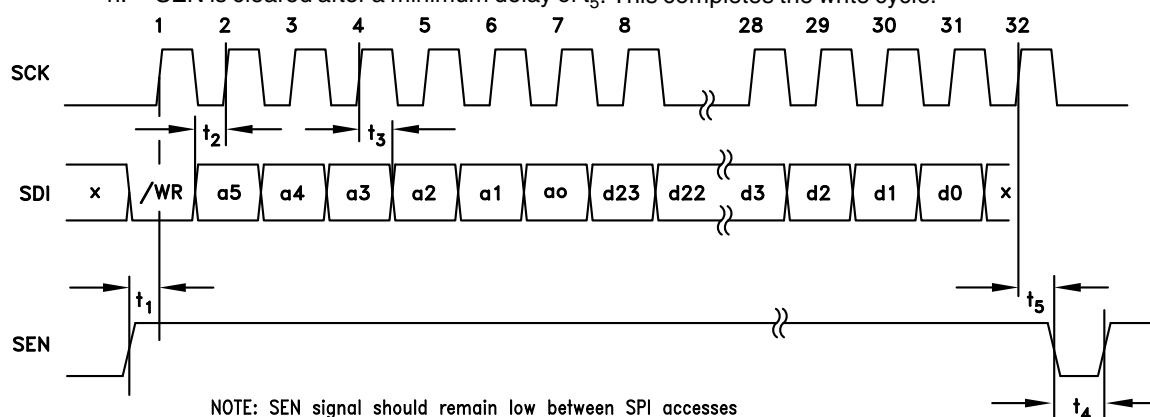
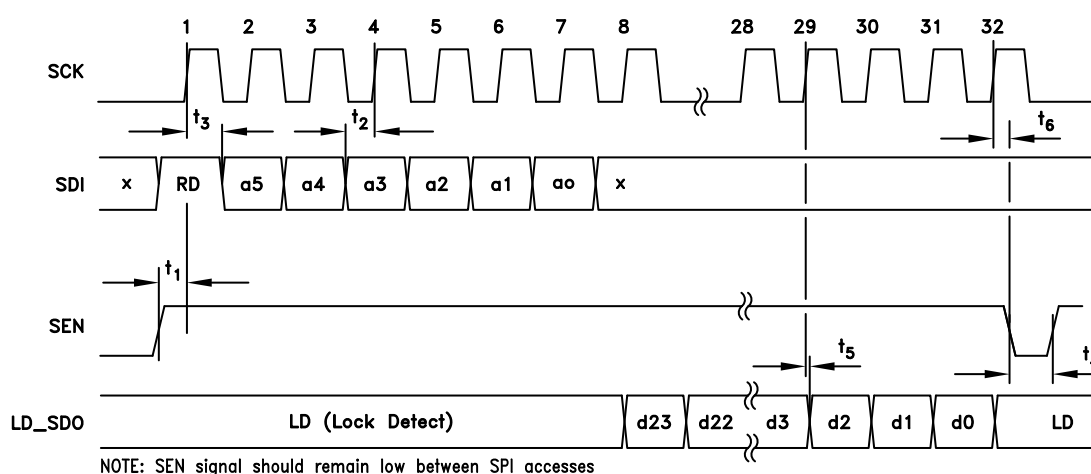

Figure 45. HMC Mode - Serial Port Timing Diagram - WRITE
Figure 46. HMC Mode - Serial Port Timing Diagram - READ
The HMC Mode protocol, shown in figures Figure 45 and Figure 46, is designed for a 4 wire interface with a fixed protocol featuring
A typical HMC Mode WRITE cycle is shown in Figure 45.
A typical HMC Mode READ cycle is shown in Figure 46.
- a. The Master (host) asserts both SEN (Serial Port Enable) and SDI to indicate a READ cycle, followed by a rising edge SCLK. Note: The Lock Detect (LD) function is usually multiplexed onto the LD_SDO pin. It is suggested that LD only be considered valid when SEN is low. In fact LD will not toggle until the first active data bit toggles on LD_SDO, and will be restored immediately after the trailing edge of the LSB of serial data out as shown in Figure 46.
- b. The slave (HMC834LP6GE) reads SDI on the 1st rising edge of SCLK after SEN. SDI high initiates the READ cycle (RD).